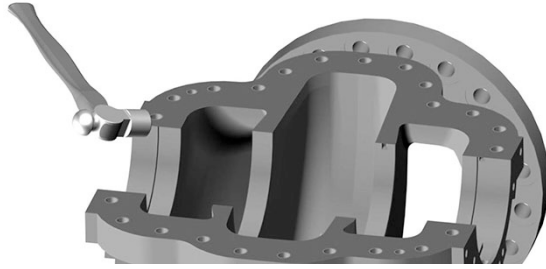

Figure 44: Trimming casing gasket using a bell-peen hammer
4. Trim the gaskets flush with the lower casing bores. (see Figure 44)